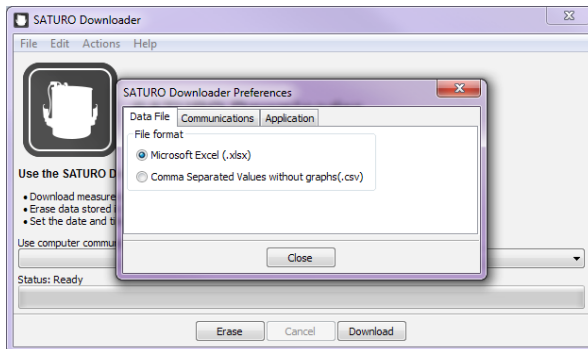

Figure 7 Change file type
3. Select the file type by selecting Edit > Preferences > Data File and choosing the appropriate file type (Figure 7).